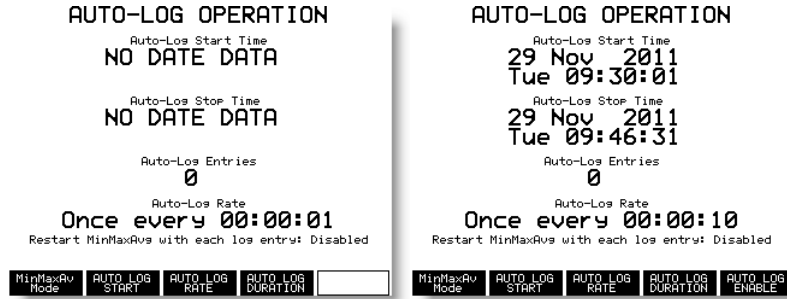

Figure 3.6: Autolog Setup
**Example:** Let's suppose you need to record data for about fifteen minutes at 10 second intervals, starting on November 29th at 9:30:01 a.m. The starting screen at the left indicates no date and time, and the AUTO LOG ENABLE soft key is vacant. The completed configuration, shown on the right in Figure 3.6, indicates a start time, stop time with a total of 100 records.
When the Autolog start time is reached, the 933A will begin logging data based on the connected input signals and Auto-log Rate. Auto-log Entries (shown as “0” in Figure 3.6) begin incrementing with each new record stored. “AL”, appearing within the Status Indicators, indicates logging activity. Autolog indication is described in Figure 2.9.